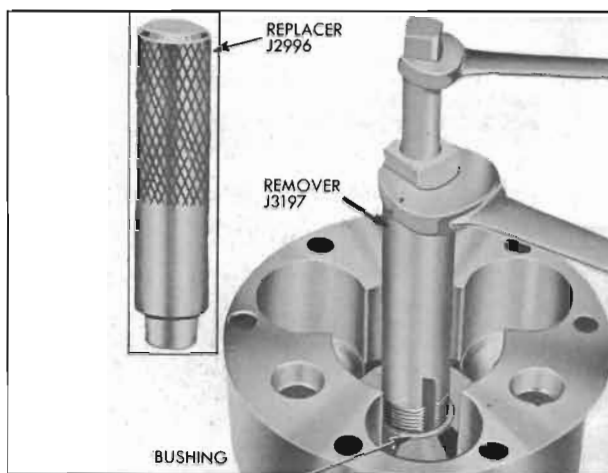

Figure 5-93—Replacing Planet Carrier Bushing
4. Inspect bushing in rear end of planet carrier, and replace it if worn or scored. The bushing may be removed with Bushing Remover J 3197 and new bushing may be installed, either end first, by using Bushing Replacer J 2996. See Figure 5-93. Reaming to size is not required.